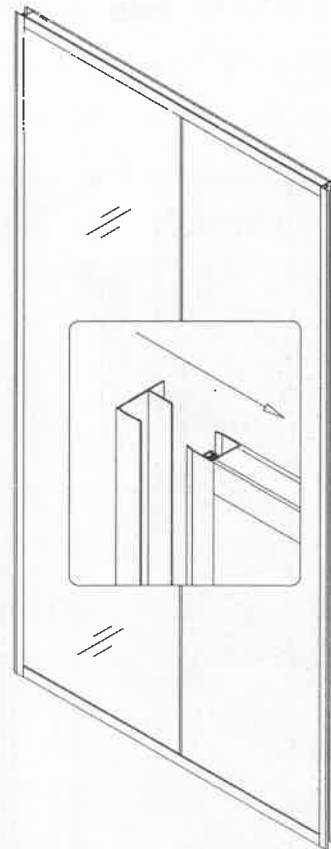

Fig4
4. Snap the assembled Stationary Glass into the **Wall profile (01)**. See Fig 4 for details.